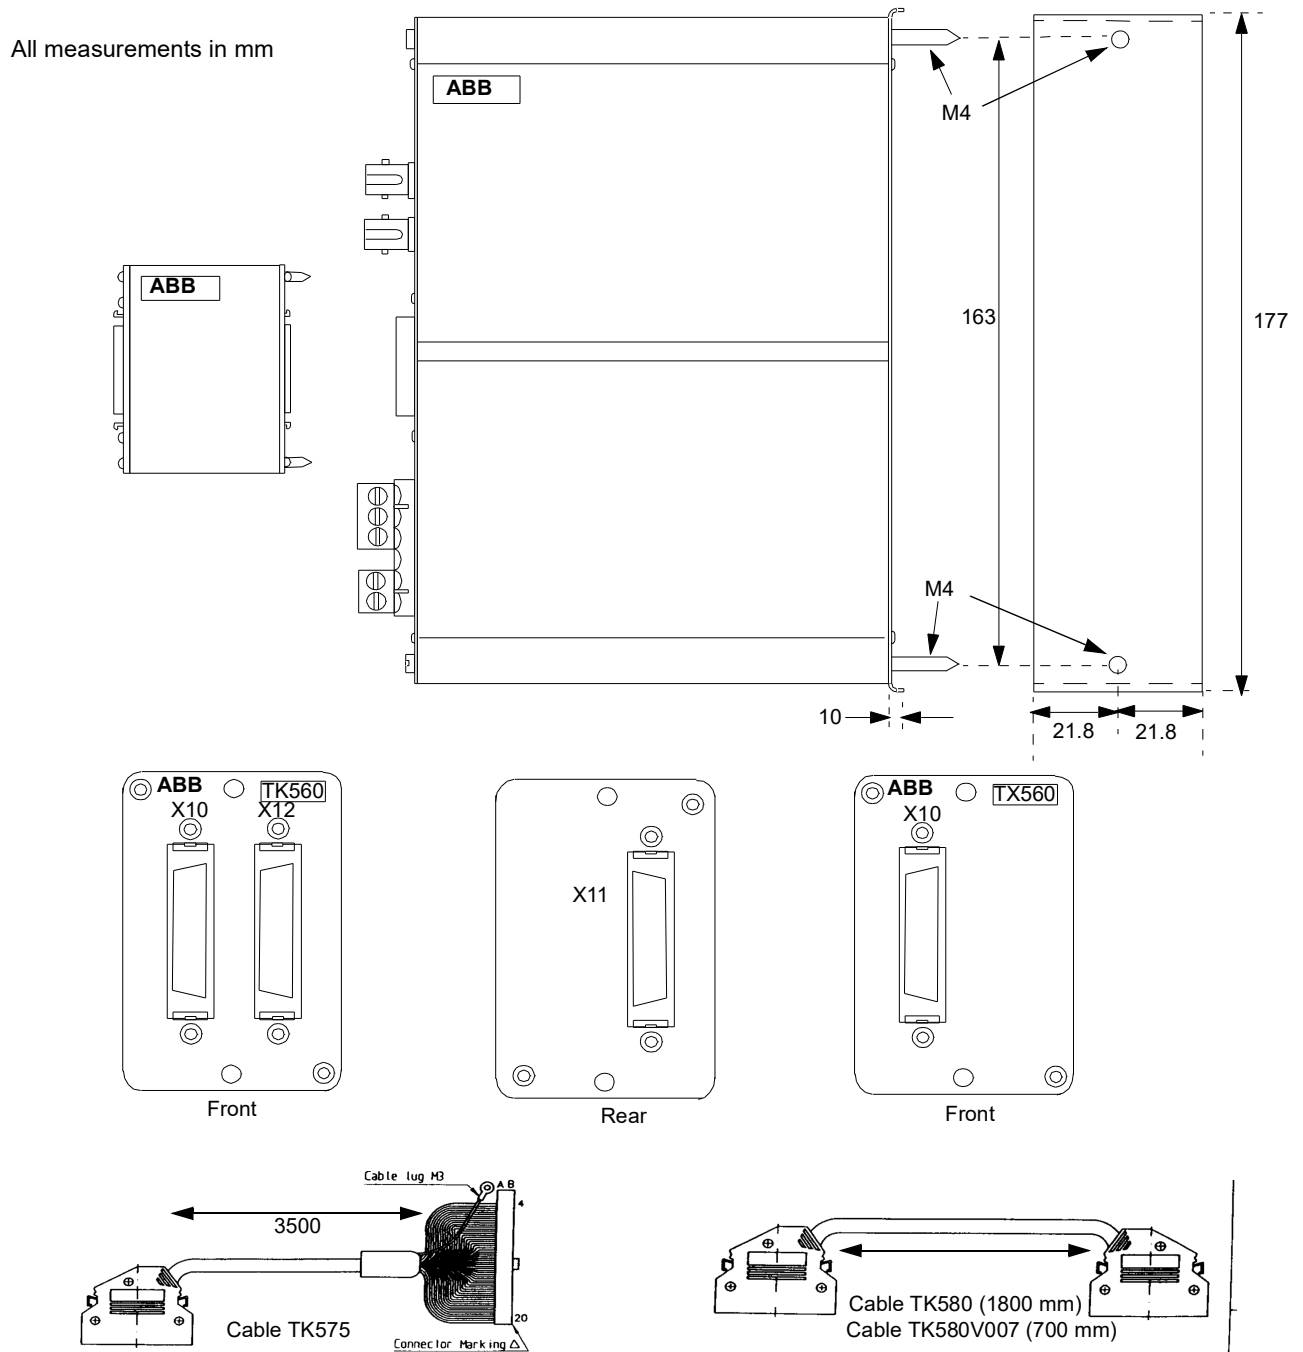

Figure 3-14. Mechanics
- TK560 as well as TX560 shall be mounted on front of TC560V1. (See also Figure 3-14)1.